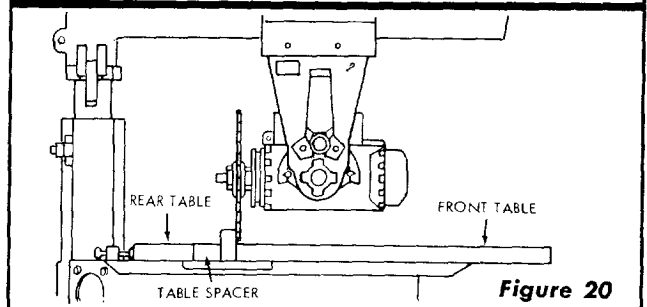

Figure 20
1. Place the rip fence against rear edge of front table, place the spacer against the rip fence, then place rear table against the spacer. (See figure 20.) Slide all three items into position so that ends are even with front table.
2. Engage a table clamp in the exposed "keyhole" in each table support and tighten the two clamps to secure all rear table components. (See figure 20.)